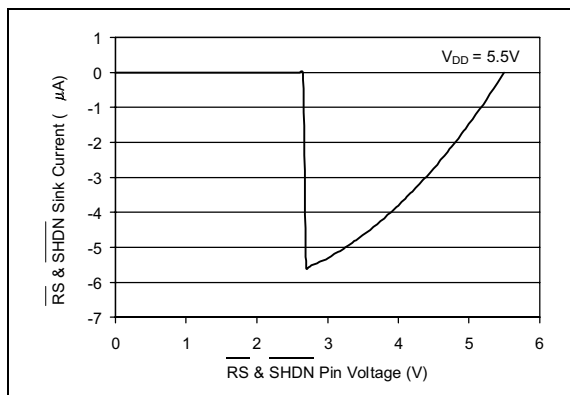

Figure 2-12: Reset & Shutdown Pins Current vs. Voltage
- See Figure 2-12 for RS and $SHDN$ pin operation.
The Reset pin will set all potentiometers to mid-scale (Code 80h) if this pin is brought low for at least 150ns. This pin should not be toggled low when the \overline{CS} pin is low. It is possible to toggle this pin when the SHDN pin is low. In order to minimize power consumption, this pin has an active pull-up circuit. The performance of this circuit is shown in Figure 2-12. This pin will draw negligible current at logic level 0 and logic level 1.
The Shutdown pin has a Schmitt Trigger input. Pulling this pin low will put the device in a power saving mode where A terminal is opened and the B and W terminals are connected for all potentiometers. This pin should not be toggled low when the \overline{CS} pin is low. In order to minimize power consumption, this pin has an active pull-up circuit. The performance of this circuit is shown in Figure 2-12. This pin will draw negligible current at logic level 0 and logic level 1.